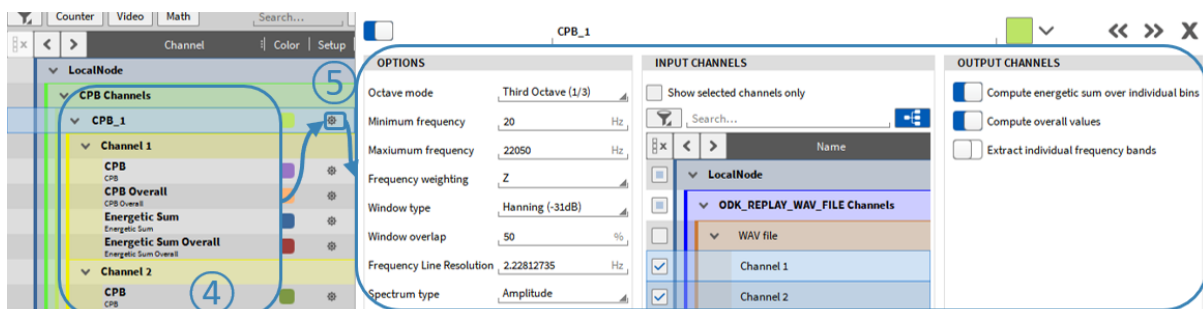

Fig. 7.131: CPB Analysis with extracted 100 Hz and 250 Hz bin
3. Press *Add* afterwards to create the calculation. The channels will be added to the Channel List (see ④ in Fig. 7.131)
4. The settings can be accessed afterwards by clicking on the Gear button of the channel (see ⑤ in Fig. 7.131)
The actual CPB spectrum (changing in time) is calculated per default. The channel name is *CPB* (see ④ in Fig. 7.131).
If *Compute energetic sum over individual bins* is enabled, the energetic sum for the spectrum is calculated. The channel name is *Energetic Sum* (see ④ in Fig. 7.131).
The calculation will be reset at recording start. The channel name will be *CPB Overall* and *Energetic Sum Overall* (see ④ in Fig. 7.131).